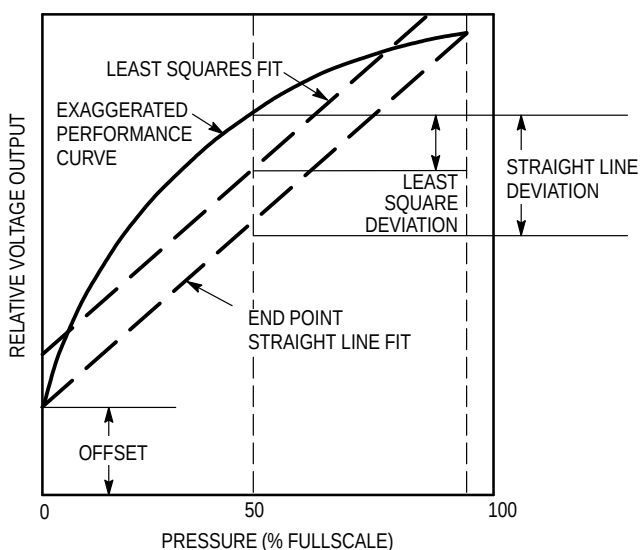

Figure 5. Linearity Specification Comparison
Linearity refers to how well a transducer's output follows the equation: $V_{out} = V_{off} + \text{sensitivity} \times P$ over the operating pressure range. There are two basic methods for calculating nonlinearity: (1) end point straight line fit (see Figure 5) or (2) a least squares best line fit. While a least squares fit gives the "best case" linearity error (lower numerical value), the calculations required are burdensome.